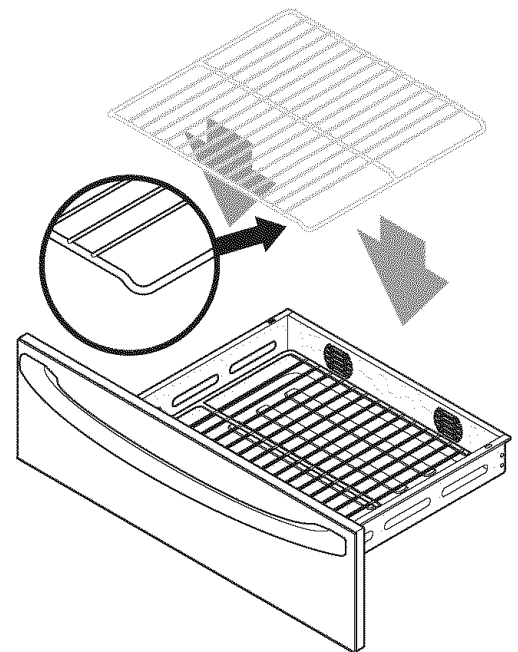

Fig. 1
- The Drawer Rack must always be in place when cooking or warming foods in the drawer. Be sure that the rack is placed with the down turned sides into the drawer. This will provide for some air space between the drawer and the food (See Fig. 1). Do not put food or utensils directly on the oven drawer bottom.